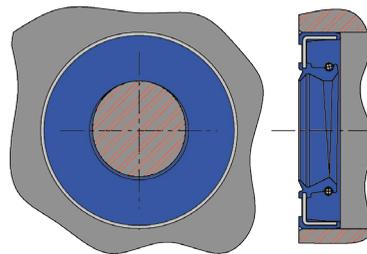

Fig. 1
1. Poor initial alignment (Fig. 1)	Review design and assembly operations and provide accurate alignment
1. Improper seal manufacturing (insufficient clamping force) (Fig. 1)	Consult seal manufacturer